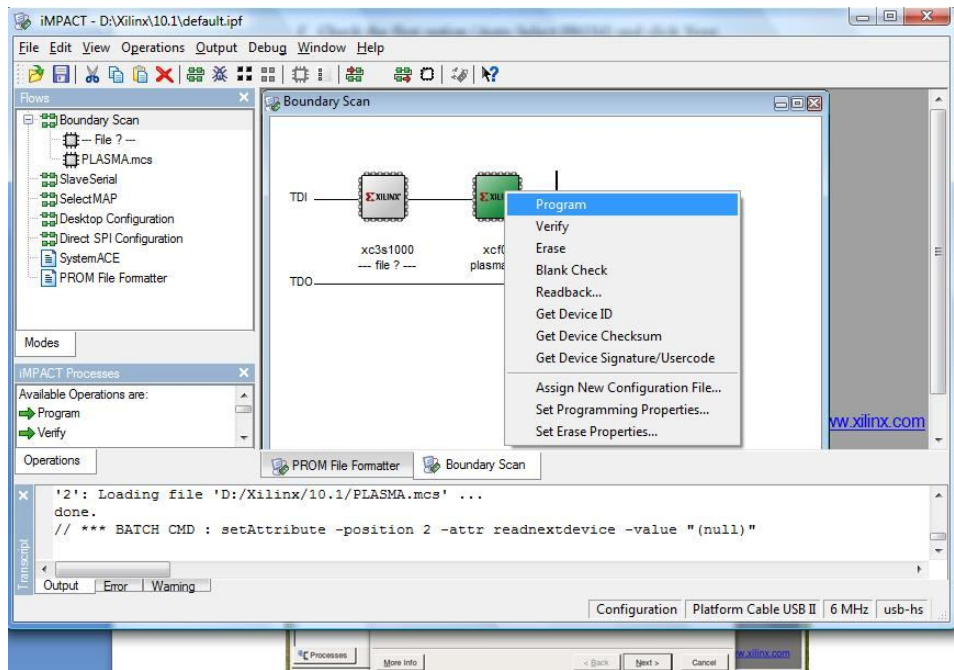

Figure 9 : Programming the ROM
- k. Right click on the 'xcf04s' device and select Program (Figure 9). In this step you should receive the following message 'Programming completed successfully', if it is not the case, redo the previous step 'j'.